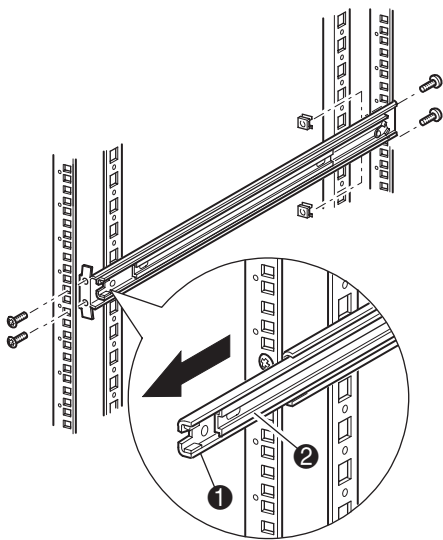

Figure 13 Installing the rails
3. Install the two slide-on clip nuts (previously marked using the template, two holes above the top bracket screw holes) on each of the front rack enclosure vertical rails (Figure 13).